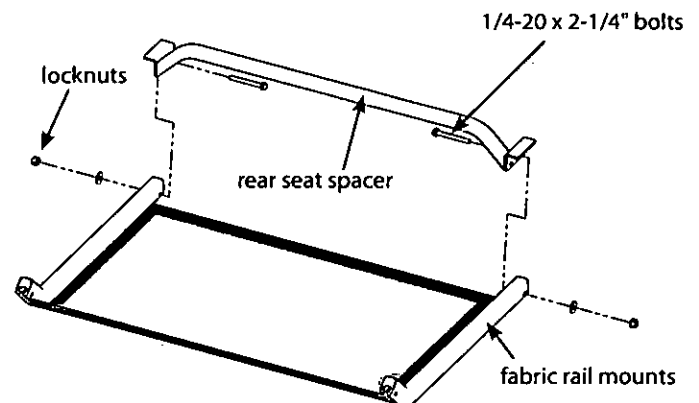

Figure 6a
9. a. Position the pre-assembled mesh seat/fabric rail mounts (360018) upside down on a sturdy, hard surface. Spread the rear of fabric rail mounts apart and insert the rear seat spacer weldment (410122). Temporarily insert (2) 1/4-20 x 2-1/4" bolts and locknuts. **SEE FIGURE 6a.**